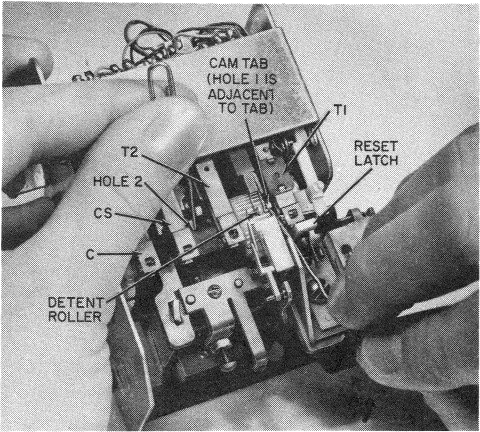

Fig. 16—Decreasing Totalizer Rate (Typical)
#### Decreasing Rate (Fig. 16)
- (7) Repeat steps (1) through (3).
- (8) Position a second paper clip into the hole on T1 cam indicated as hole 1 (Fig. 16) and rotate cam in direction of the curved arrow as shown.
*If hole 1 in T1 cam has been mutilated or clogged preventing use, place paper clip against tab as shown in Fig. 16 and push tab in direction of the straight arrow.*
- (9) One step of rotation of the T1 cam in this direction decreases the rate by 5 cents.
- (10) Check new initial rate setting as described in paragraph 3.14.